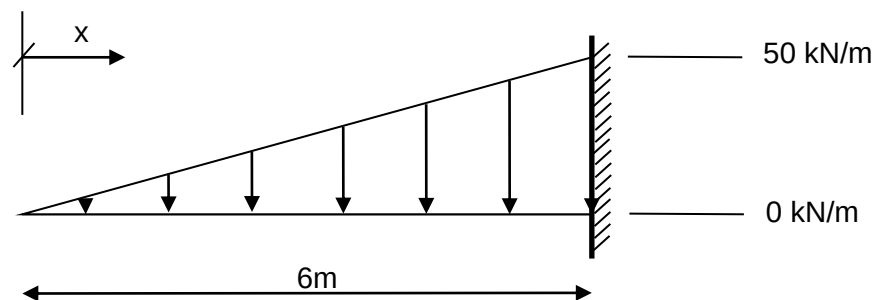

Figure Q2
2. With reference to Figure Q2,
- c. Show that the magnitude of the maximum deflection of the beam in Figure Q2 is [5]